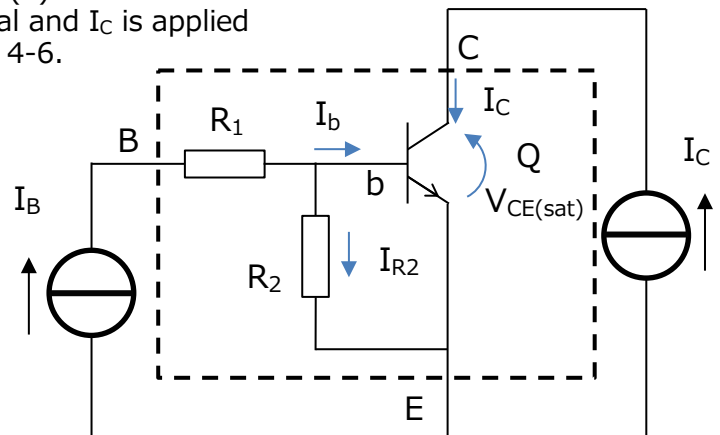

Figure 4-6 $V_{CE(sat)}$
The collector-emitter saturation voltage ($V_{CE(sat)}$) is defined as a voltage drop across the collector (C) and emitter (E) terminals that occurs when I_B is applied to the base (B) terminal and I_C is applied to the collector (C) terminal, as shown in Figure 4-6.